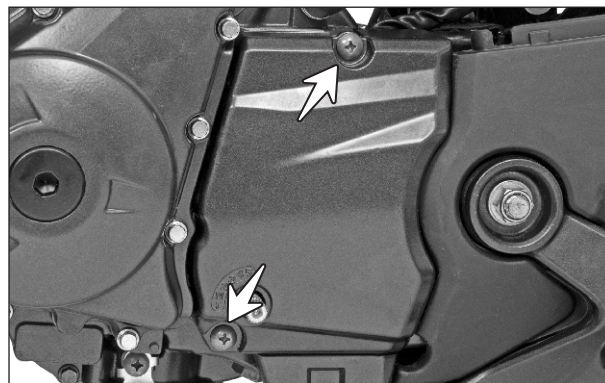

Fig. 3.102
- Remove CRR pan head screw (M6x20 - 2 nos.) from the cover engine sprocket and take out cover engine sprocket. (Fig. 3.102)